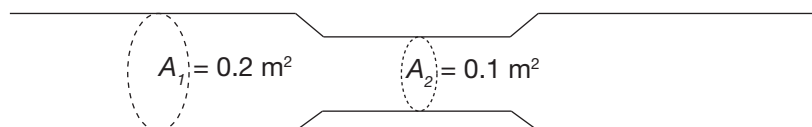

Figure 2.
3. A volume of 2 m^3 of water is flowing in a level, horizontal pipe with a flow rate of $1 \text{ m}^3/\text{s}$. The water flows from a pipe section with a cross sectional area of 0.2 m^2 to a pipe section with a 0.1 m^2 cross sectional area (see Figure 2). Before entering the constricted segment of pipe, the water is at a pressure 20 kPa above atmospheric pressure. What is the average acceleration that the volume of water undergoes when flowing from the unconstricted pipe segment to the constricted pipe segment?